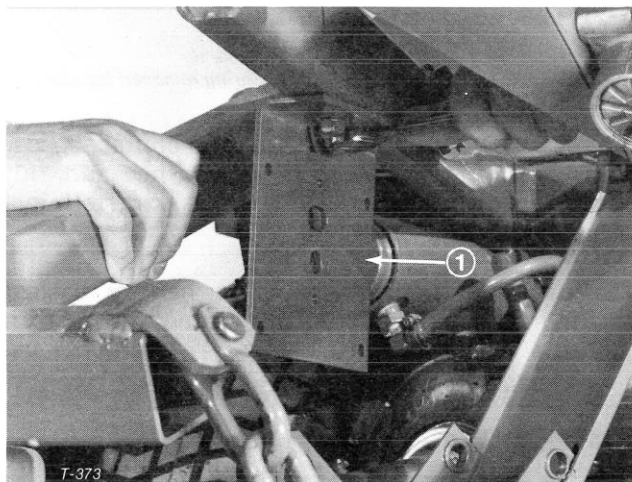

Figure 19
7. Using original bracket mounting capscrews, install new bracket (Fig. 19).